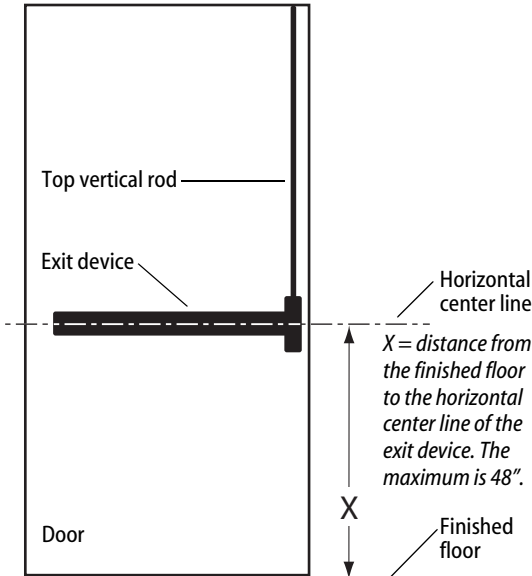

Figure 1 — Measuring the mounting height from finished floor to horizontal centerline of the exit device
- 1 If the exit device is already installed on the door, measure from finished floor to the horizontal centerline of the exit device as shown in Figure 1.